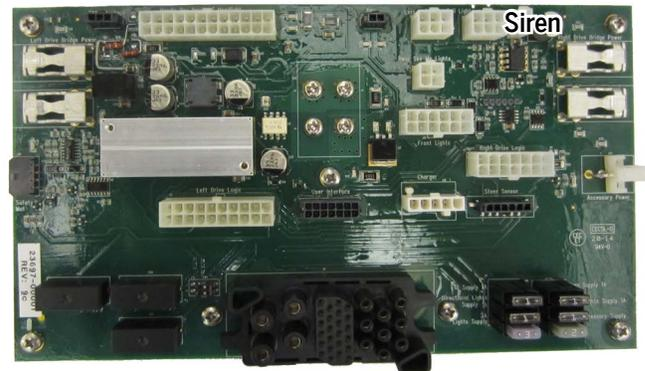

Figure 181: Siren Harness to PI Board
3. Disconnect the wire harness from the PI Board. See **Figure 181**.
4. Connect the wire harness to the PI Board. See **Figure 181**.